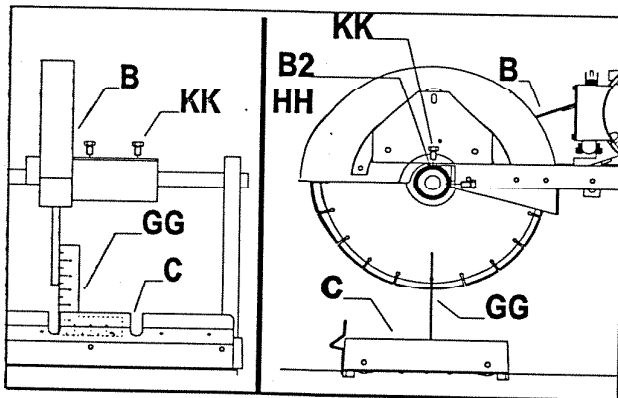

Figure 9
3) Place the **Square (GG)** on the **Conveyor Cart (C)** so that it is against the saw blade and is below the center of the blade shaft (Figure 9). If the Square does NOT contact the saw blade along the entire length (height) of the square, the blade shaft must be aligned Top-To-Bottom (Horizontally). Adjust the blade shaft by putting **Shims (HH)** between the blade shaft housing and the head platform weldment (Location "B2" in Figure 9). Loosen the **Capscrews (KK)** that hold the blade shaft in position. Slide a shim, of the proper thickness, into position at one of the capscrews (around the thread) so that the blade shaft is aligned Top-To-Bottom